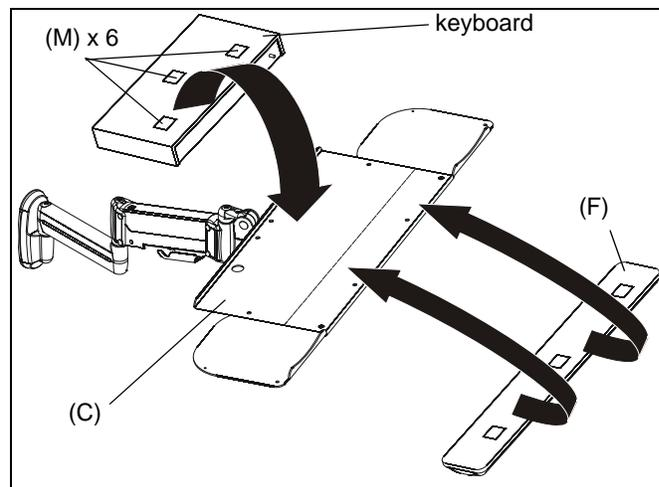

Figure 41
- Remove adhesive backing from one side of hook and loop connectors (M).
- Place hook and loop connectors (M) on bottom of the keyboard and bottom of wrist pad (F) approximately as shown. (See Figure 41)
- Remove the adhesive backing from the other side of the hook and loop connectors (M).
- Firmly place keyboard on keyboard tray making sure to leave room for the wrist pad if necessary. (See Figure 41)
- Firmly place wrist pad (F) on keyboard tray in front of the keyboard. (See Figure 41)
- Remove adhesive backing from mouse holder (G).
- Place mouse holder (G) on wall at desired location. (See Figure 41)